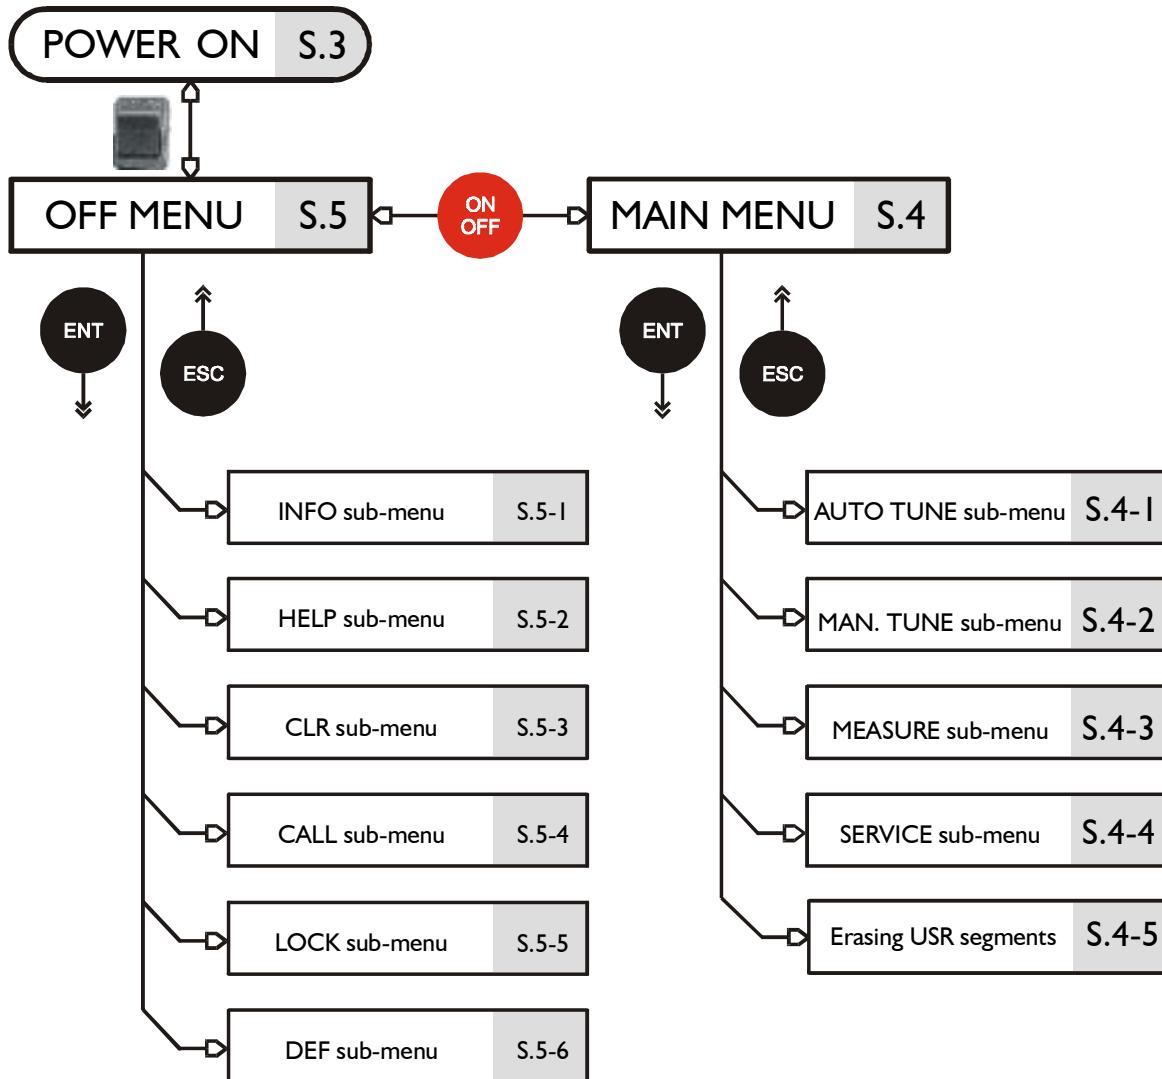

Fig.3-2 Menu Structure (see also S.8)
e) The MAIN-menu consists of four sub-menus which can be selected by pressing the  button (see fig.3-2 and S.8).